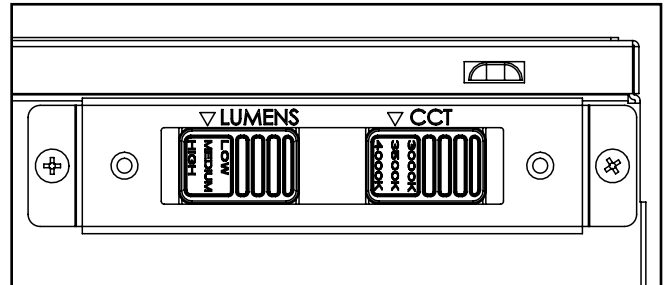

Figure 7.
9. With fixture powered on, use the lumen switch and CCT switch (if equipped) to adjust the fixture to the desired lumen level and CCT (Figure 7). Refer to label on top of driver for lumens and wattage of each setting.